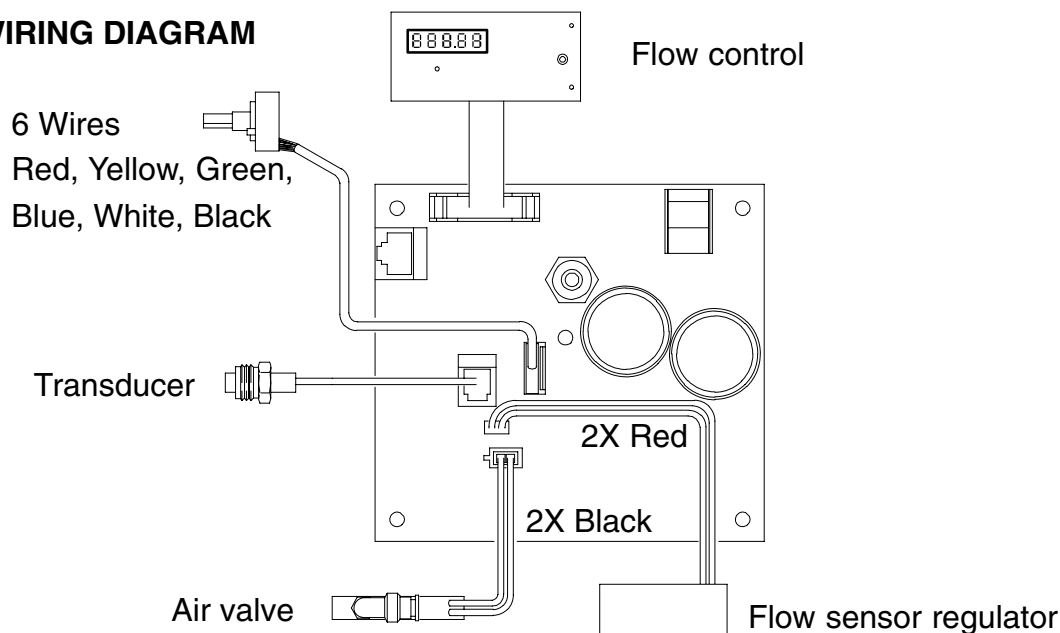

Fig. 17
2. Fig. 17. Disconnect all necessary wiring.
3. Fig. 17. Connect all necessary wiring.